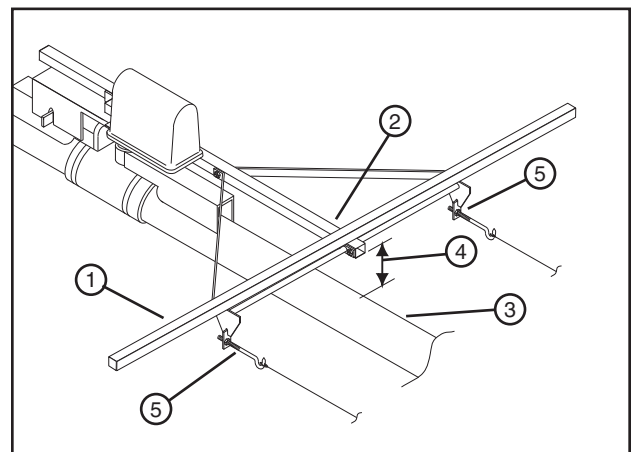

Figure 101-3 1. Weight 4. Weighted Measurement
6. Place a 13 lb (5.9 kg) weight on the alignment tube. Center the weight over the cable attachment assembly. See figure 101-3.
7. Measure the distance from the end of the alignment tube to the span. This is the weighted measurement. See figure 101-3.
8. Adjust the hook bolts evenly to obtain the proper cable deflection. See figure 101-3.